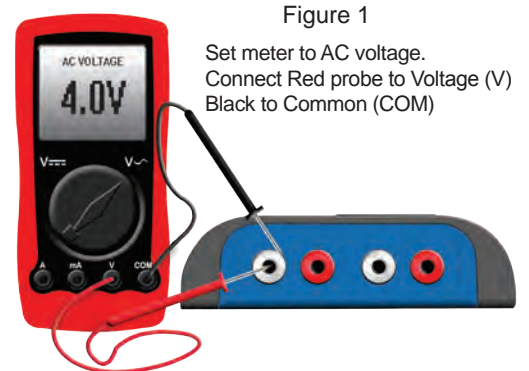

Figure 1
3. Choose either left or right channel - With multi-meter, test output of LP7-4 front channels. Probe with negative on RCA shield and positive in center of RCA output. (figure 1)